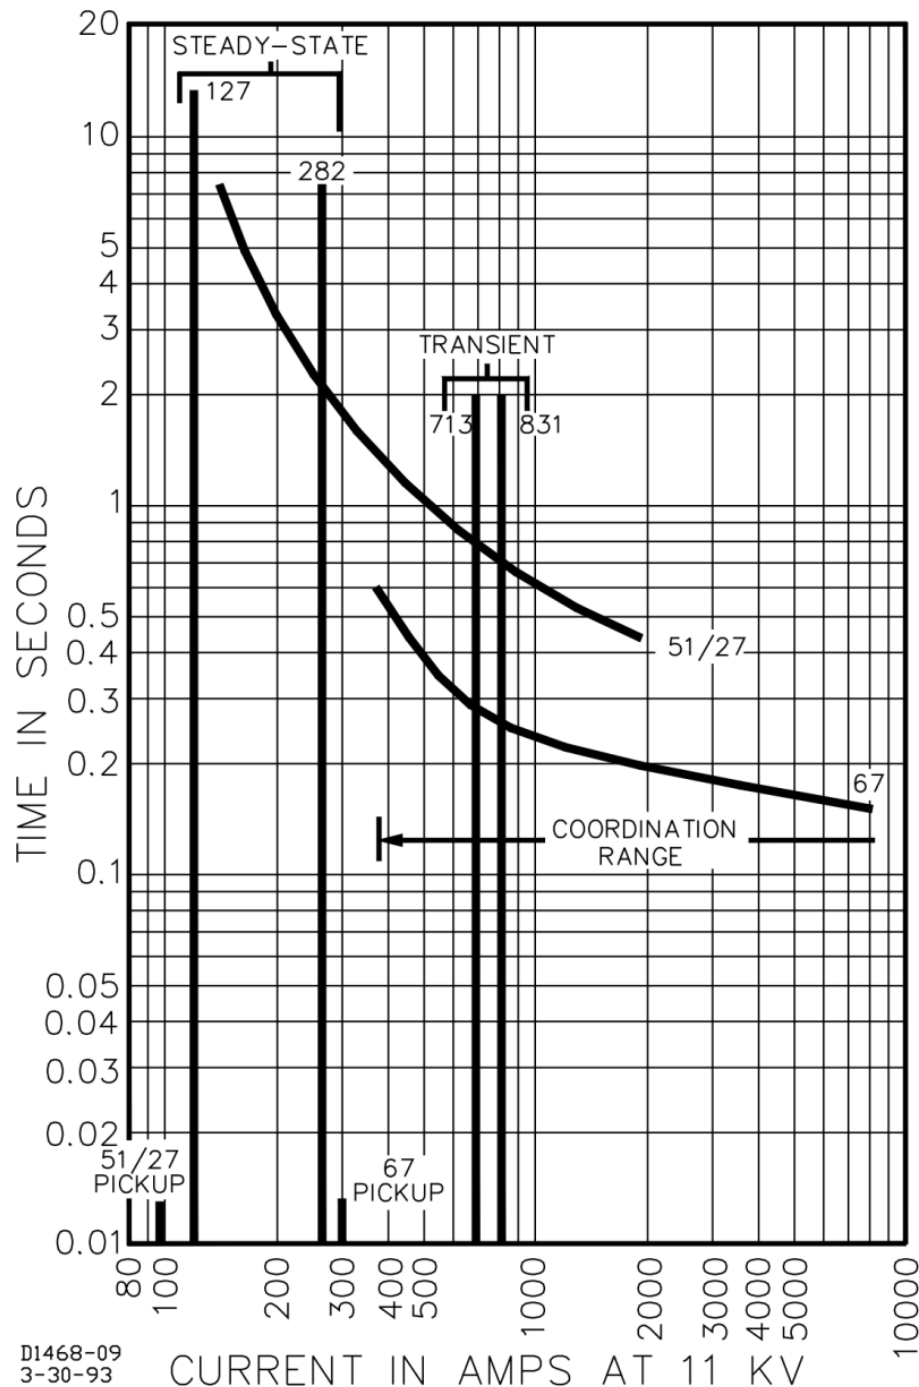

Figure 5-8. Relay 51/27 Coordination with Relay 67 for Fault 3 Example
- (5) 51/27 transient level time at 7.4 multiples and **TIME DIAL** setting of 22: **0.72 s**.
(6) 51/27 relays coordinate with 67 relays for a high-side fault at the transient level. However, it appears that the current may drop below the 67 relays pickup (300 amperes) before this relay can operate. Should the 67 relays fail to operate, the 51/27 relays will trip the generators. Figure 5-8 plots these two relay characteristics. If the generator is fully loaded at 194 amperes with a 0.85 PF, the superposition of this current and the fault current at  $-90^\circ$  yields a total current of 831 amperes at the transient level and 282 amperes at the steady-state level with no regulator boosting. The relays are selective down to about 350 amperes.